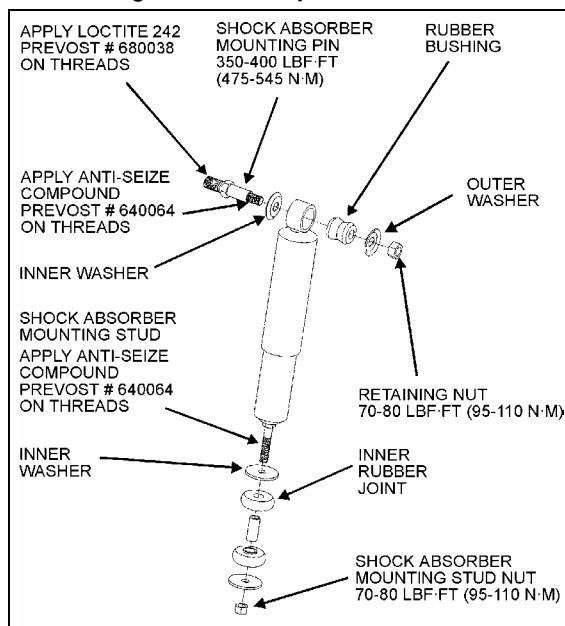

FIGURE 19: SHOCK ABSORBER
2. Remove the nut and washer from shock absorber mounting pin (upper side), taking care to identify the inner and outer washers to ease reinstallation. Refer to figure 19 for details.
3. Place the inner washer on shock absorber pin (Fig. 19).